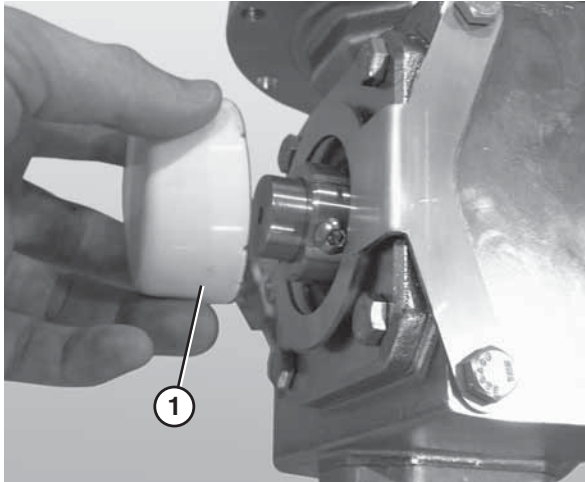

Figure 29
3. Remove the gearmotor cover (Figure 29, item 1). Use a screwdriver to pry it loose, if necessary.